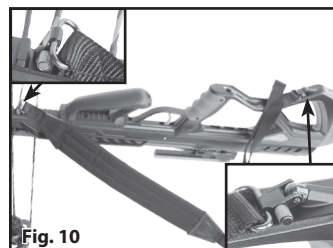

Fig. 10
1. Attach the shoulder sling to the sling studs. Loosen the spring loaded thumb screw on the swivel and then press it to unlock the latch. (Fig. 10)